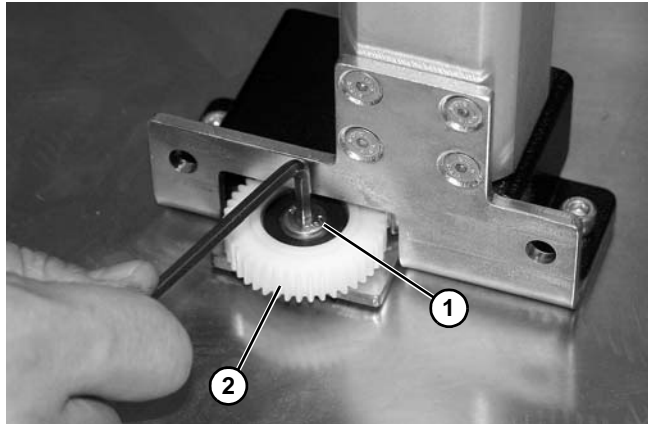

Figure 50
4. Remove flat head screw (Figure 50, item 1) holding idler gear (Figure 50, item 2) onto motor mounting bracket.